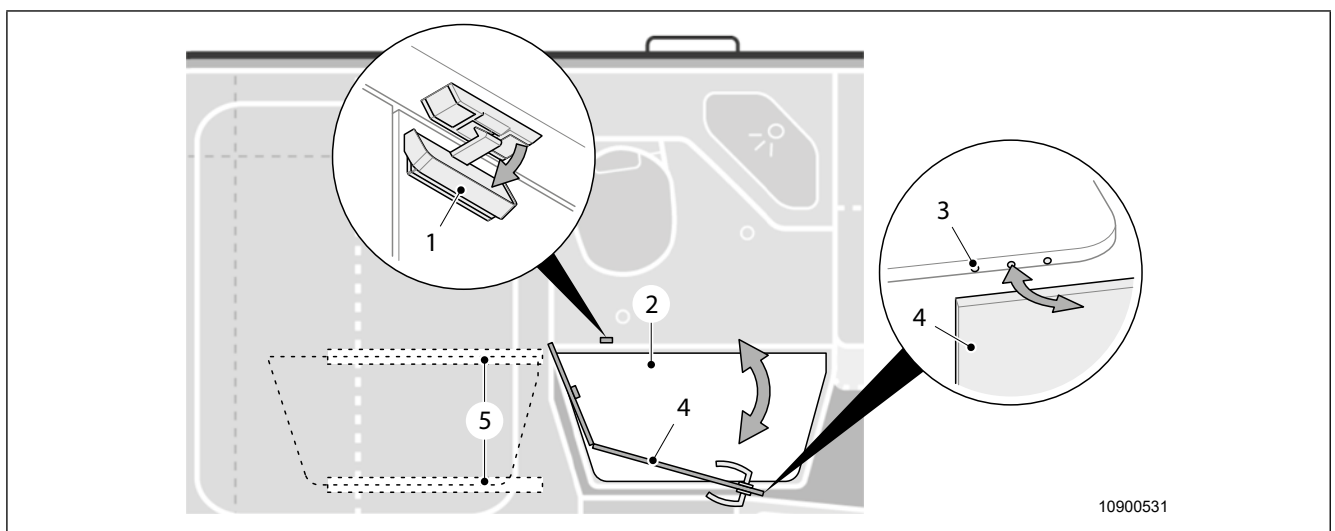

Fig. 28 Vario bathroom
1. Open the lock (Fig. 28, item 1).
2. Open the door (Fig. 28, item 4) and secure it with the magnetic holder (Fig. 28, item 3).
1. Close the door (Fig. 28, item 4) and lock it (Fig. 28, item 1).
1. Remove the floor plate (Fig. 28, item 2) and slide it into the holder under the rear bed (Fig. 28, item 5).
3. Remove the floor plate (Fig. 28, item 2) from the holder (Fig. 28, item 5) and place it on the shower tray.